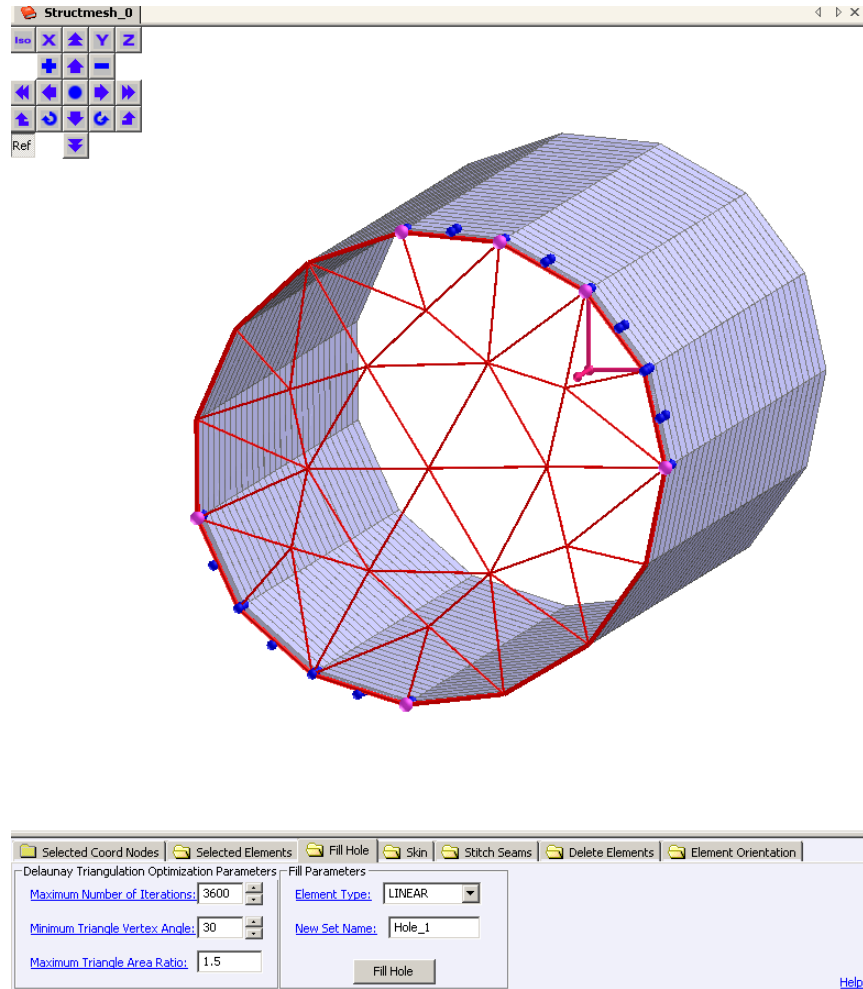
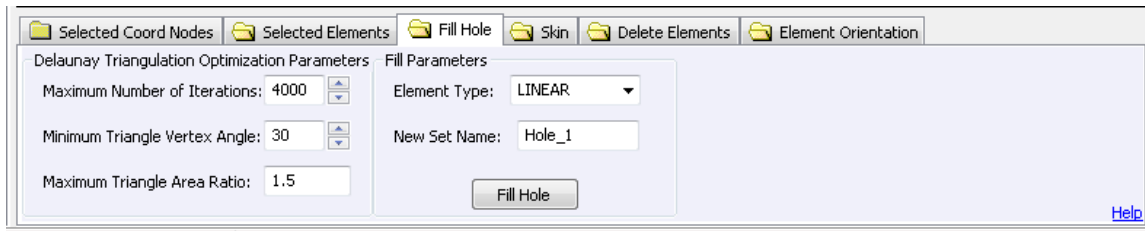

Figure 5.23 Coustyx GUI - Fill Hole.
Figure 5.24 Fill Hole Parameters.
The **Fill Hole** tabbed window is located at the bottom pane of the *Mesh Viewer* window (Figure 5.23). *Coustyx* uses an *Optimized Delaunay Triangulation Method* to fill holes. The parameters used are shown in Figure 5.24. First, we will explain each of the parameters in the Figure 5.24, and then discuss the procedure to fill a hole. (Figure 5.23)
The parameters used by the *Delaunay Triangulation* method can be modified here. The default set of parameters provided by *Coustyx* are sufficient for most of the cases. *Coustyx* goes through number of iterations to optimize the shapes of triangles in the hole while satisfying the limits defined by the parameters **Minimum Triangle Vertex Angle**, and **Maximum Triangle Area Ratio**. (Figure 5.24)
- Set the parameters for hole filling in the **Fill Hole** tabbed window. Refer to the Section 5.4.1 and Section 5.4.1 to set *Delaunay Triangulation Optimization Parameters* and *Fill Parameters* (Refer to Figure 5.24).
- The *Delaunay Triangulation* method requires at least three nodes to be identified on the edge of the hole to auto-fill the hole with triangle elements. (Refer to Figure 5.23)
- Accept the triangulation of the hole by pressing **Fill Hole** → **Fill Hole** button at the bottom of the window. (Refer to Figure 5.24)